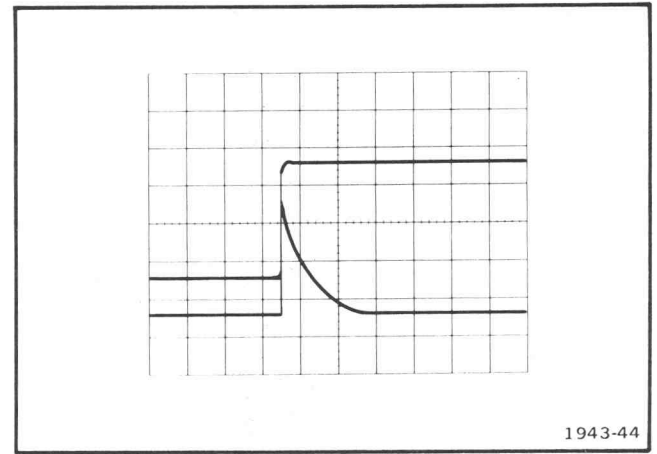

Fig 6-20
- g. ADJUST—R1501 to superimpose rising edge of marker waveform and rising edge of calibrator waveform (see Fig. 6-20).